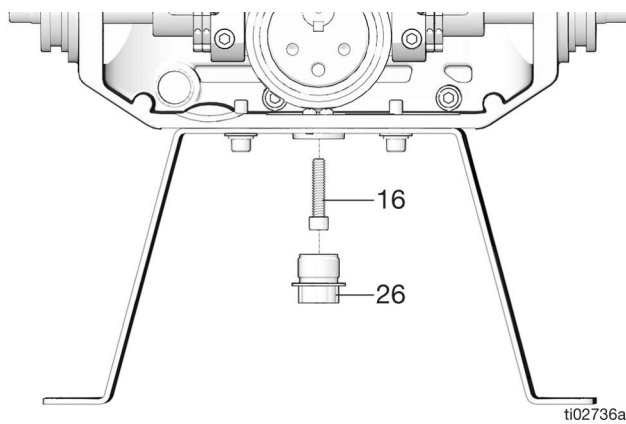

FIG. 29:
5. Remove the red plug from the bottom of the housing (26) and use a 3/16 in. hex key to remove the set screw on the bottom rear of the cam (12) (FIG. 29).